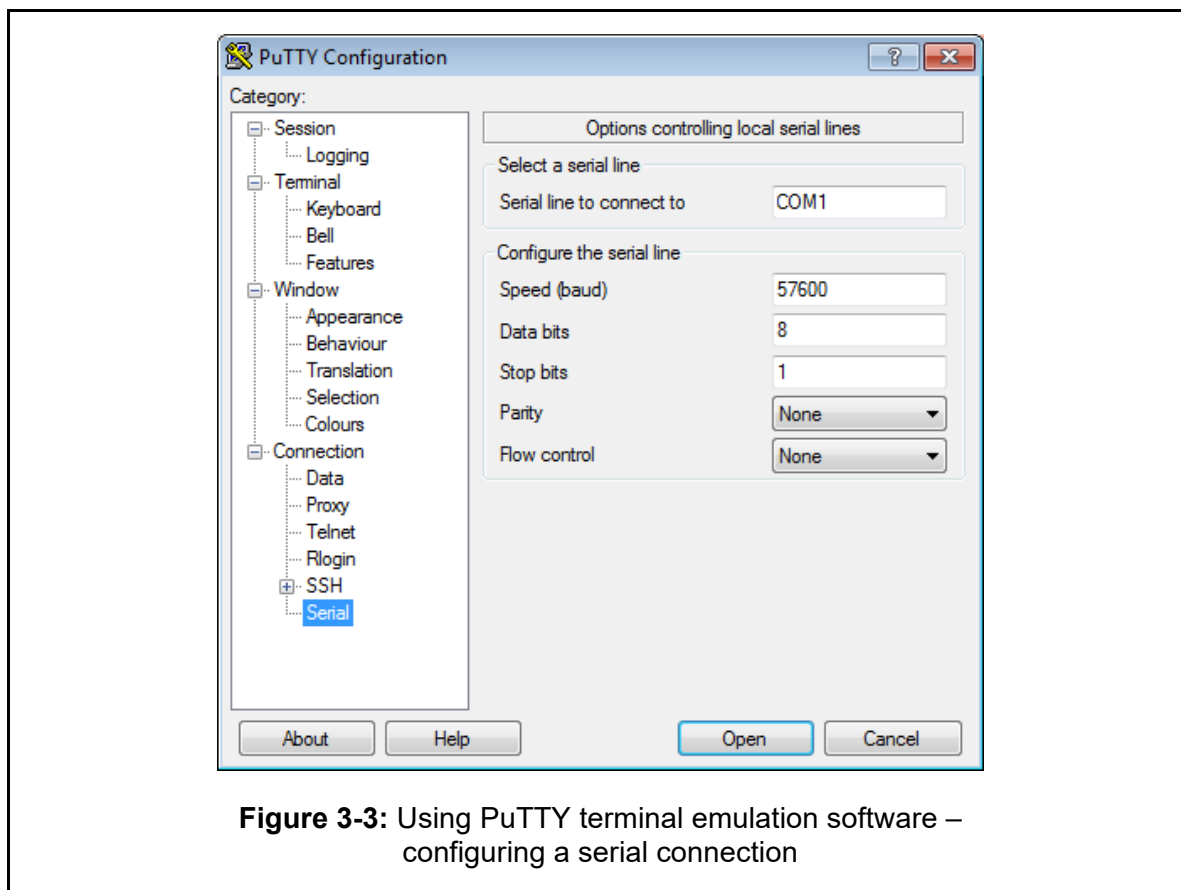

Figure 3-3: Using PuTTY terminal emulation software – configuring a serial connection
- 3- Configure the PuTTY serial session options, as shown in Figure 3-3.